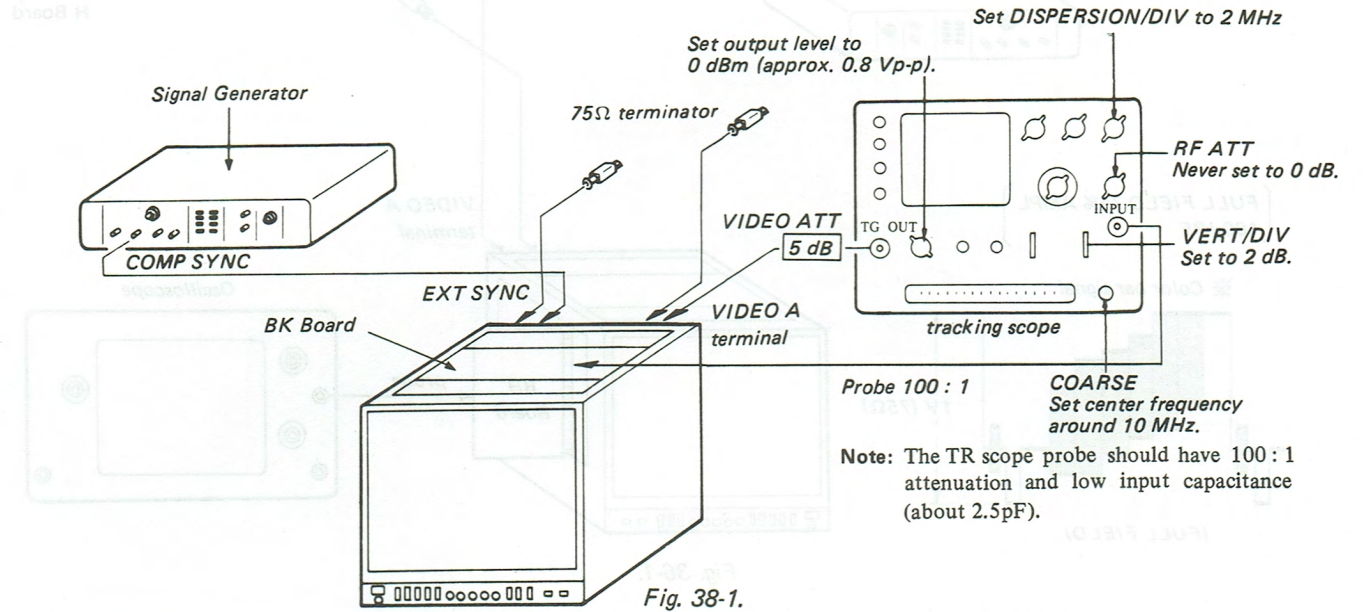

Fig. 38-1.
1. Connect as shown in Fig. 38-1.